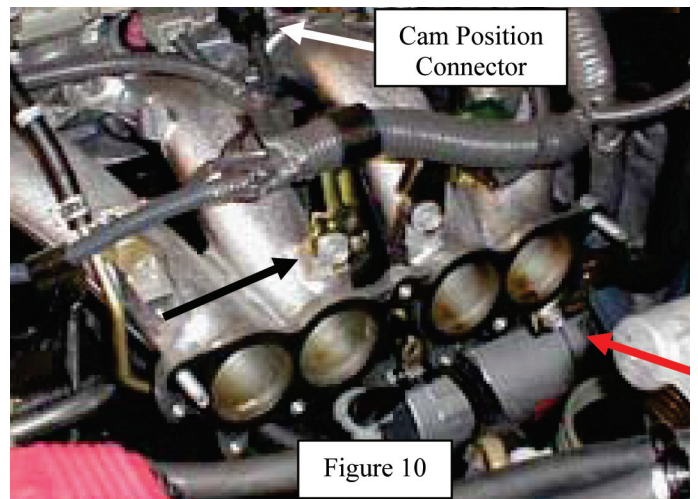

Figure 10
- 25. Disconnect wire loom clips from the intake manifold brackets and remove the clips from the wire loom. See arrows in Figure 10.
- 27. Disconnect the camshaft position sensor connector. If equip See Figure 10.